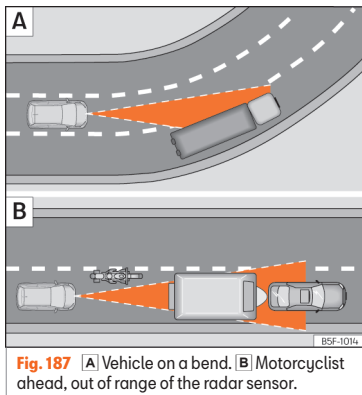

Fig. 187 **A** Vehicle on a bend. **B** Motorcyclist ahead, out of range of the radar sensor.
The ACC may not detect the vehicle in front on a curve, or may regulate the distance from vehicles in other lanes » » **Fig. 187 A**.
- Vehicles that are not aligned while driving or that are outside the sensor's detection area, such as motorcycles » » **Fig. 187 B**